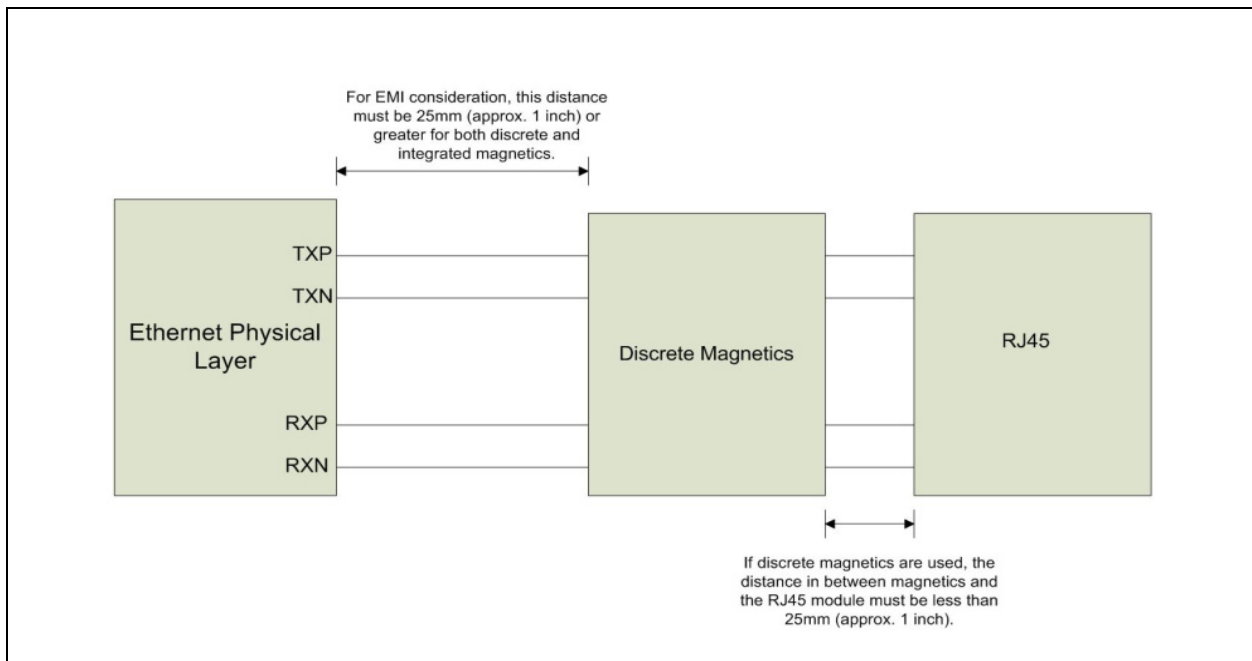

Figure 2.3 Discrete Magnetic and RJ-45 Placement
- If the magnetic is a discrete component, then the distance between the magnetic and the RJ-45 needs to have the highest consideration and be kept to under 25mm (approx. 1 inch) of separation. Refer to Figure 2.3.